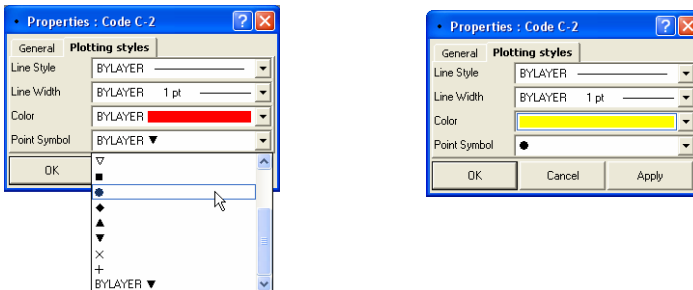

Figure 5-56. Select Outline Properties
3. On the *Plotting styles* tab, select the line style, line width, color and point symbol. The plotting style can be edited for any code with or without a layer (Figure 5-56).